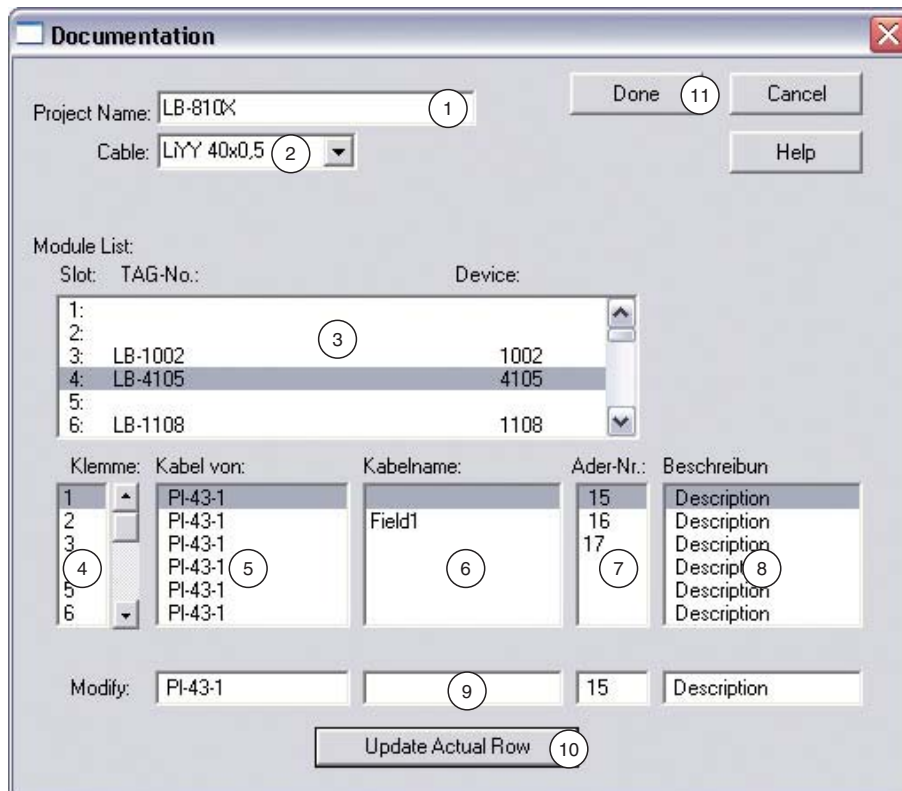

Figure 7.17: Station parameter documentation window
This opens the window **Documentation of the station parameters** (view Figure 7.17 on page 114).
3. Make entries in the drop-down lists and boxes as required. For a description, see beneath the following screenshot (view Figure 7.17 on page 114).